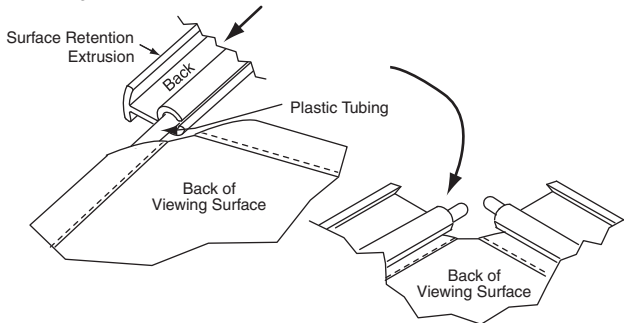

Figure 7
- ③ **Carefully** slide surface retention extrusion (rounded edge visible) along hem and onto surface on all four edges of fabric (see Fig. 7).